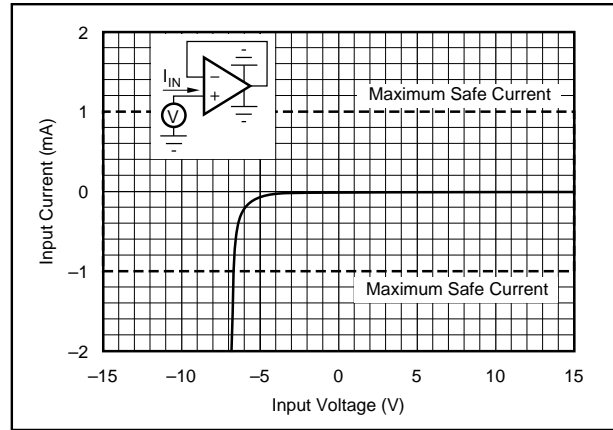

FIGURE 2. Input Current vs Input Voltage with $\pm V_{CC}$ Pins Grounded.
NOTES: (1) Packages must be derated based on $\theta_{JC} = 150^\circ\text{C}/\text{W}$ or $\theta_{JA} = 300^\circ\text{C}/\text{W}$. (2) For supply voltages less than $\pm 18\text{VDC}$, the absolute maximum input voltage is equal to $+18\text{V} > V_{IN} > -V_{CC} - 6\text{V}$. See Figure 2. (3) Short circuit may be to power supply common only. Rating applies to +25°C ambient. Observe dissipation limit and T_J .